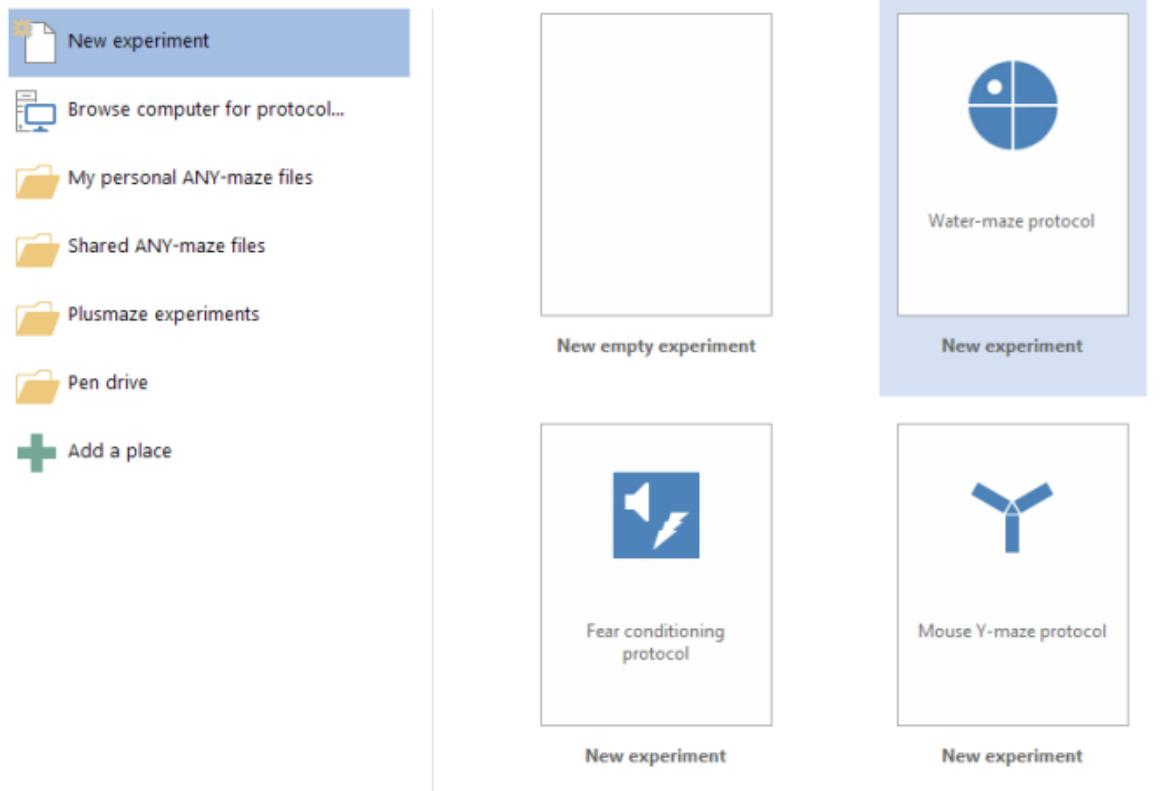

Figure 3. Selecting a protocol document will create a new experiment and load the protocol into it.
- When you start ANY-maze, or when you select the New experiment option on the File page, ANY-maze shows a list of recently used protocols as a series of 'documents' (see figure 3), clicking any of these documents will create a new experiment and load the selected protocol into it.
- The list of protocol 'documents' just includes recently accessed protocols, if you want to use a protocol that's not listed then you can select the *Browse computer...* option (see figure 3) which will open the Load protocol window, where you can navigate to any protocol file on your computer or network. When you select a file ANY-maze will create a new experiment and load the protocol into it.